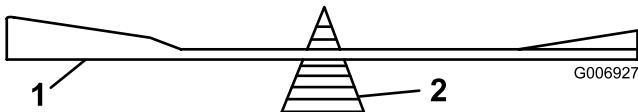

Figure 32
2. Check the balance of each blade by putting it on a blade balancer (Figure 32). If the blade stays in a horizontal position, the blade is balanced and can be used. If the blade is not balanced, file some metal off of the back side of the blade. Repeat this step until the blade is balanced.